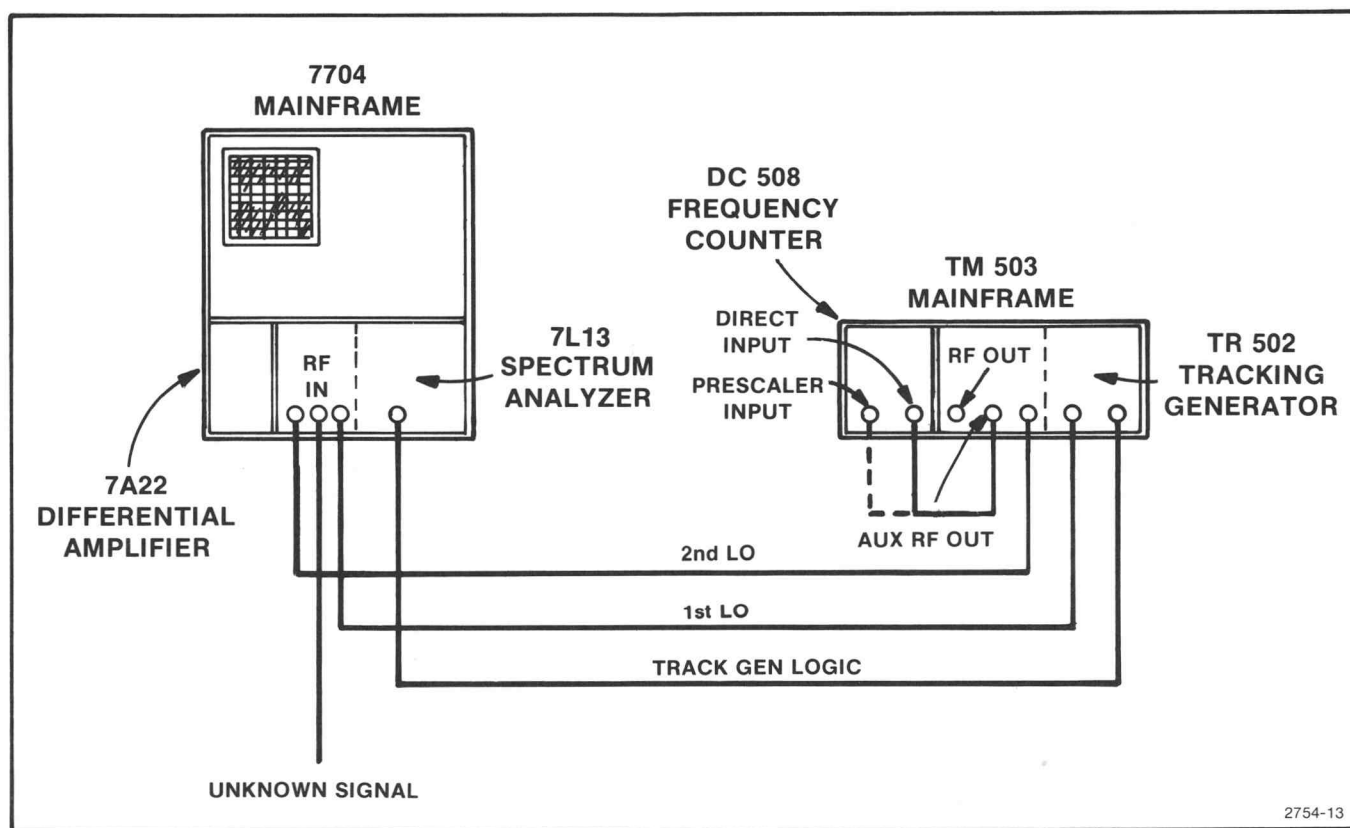

Fig. 4-2. Test Setup for Measuring Frequency Using the Spectrum Analyzer/Tracking Generator/DC 508 Option 07.
a. Using the cables supplied with the accessories, connect the TR 502 Tracking Generator 1st and 2nd LO outputs to the 7L13 1st and 2nd LO inputs. Connect the spectrum-analyzer Tracking Generator Logic output to the TR 502 Tracking Generator input. Fig. 4-2 illustrates the test equipment setup.